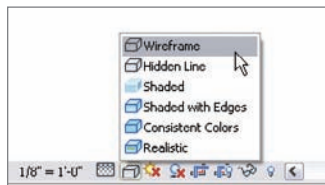

FIGURE 20.22 Clicking the Wireframe button on the View Control bar
16. On the View Control bar, click the Wireframe button so you can see the AutoCAD structure, as shown in Figure 20.22.